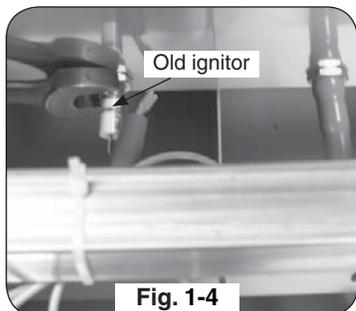
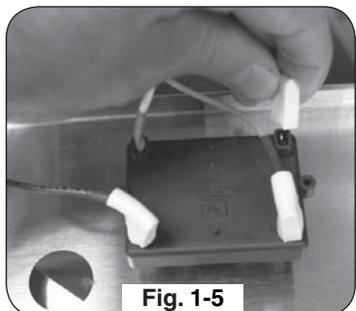

Fig. 1-4
Fig. 1-5
6. Remove the existing ignitor box by first loosening the nut on the faceplate side of the fire wall with a wrench. Disconnect the wire connector from the electrode and pull it through the hole (see Fig. 1-4). Unplug the other end and discard the old wire (see Fig. 1-5).